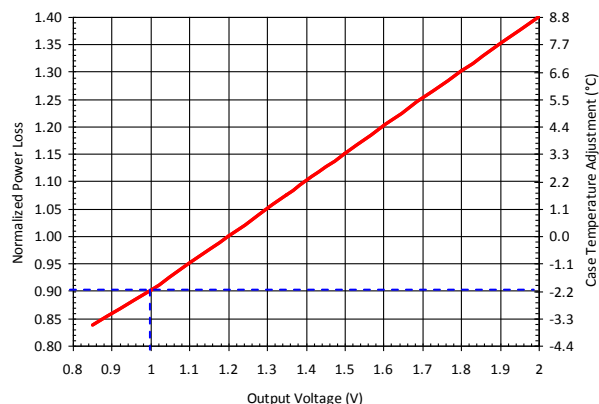

Figure 12: Normalized Power Loss vs. Output Voltage
- 3) Determine the output voltage normalizing factor with $V_{OUT}=1V$, which is 0.90 based on the dashed lines in Figure 12.
- 10) Determine the case temperature with $V_{OUT}=1V$, which is -2.2° based on the dashed lines in Figure 12.